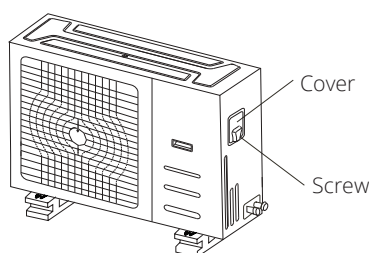

Fig. 8.1
2. Remove the electric cover of the outdoor unit. If there is no cover on the outdoor unit, take off the bolts from the maintenance board and remove the protection board. (See Fig. 8.1 and 8.2).